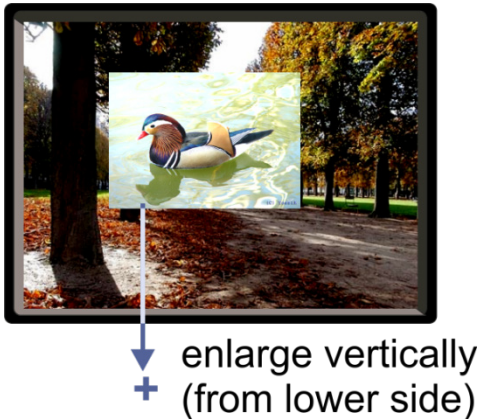

Figure 7: Increasing the Height
4. Select V Height (an OSD slide bar appears) and press + to increase the height, or – to decrease the height, see Figure 7.